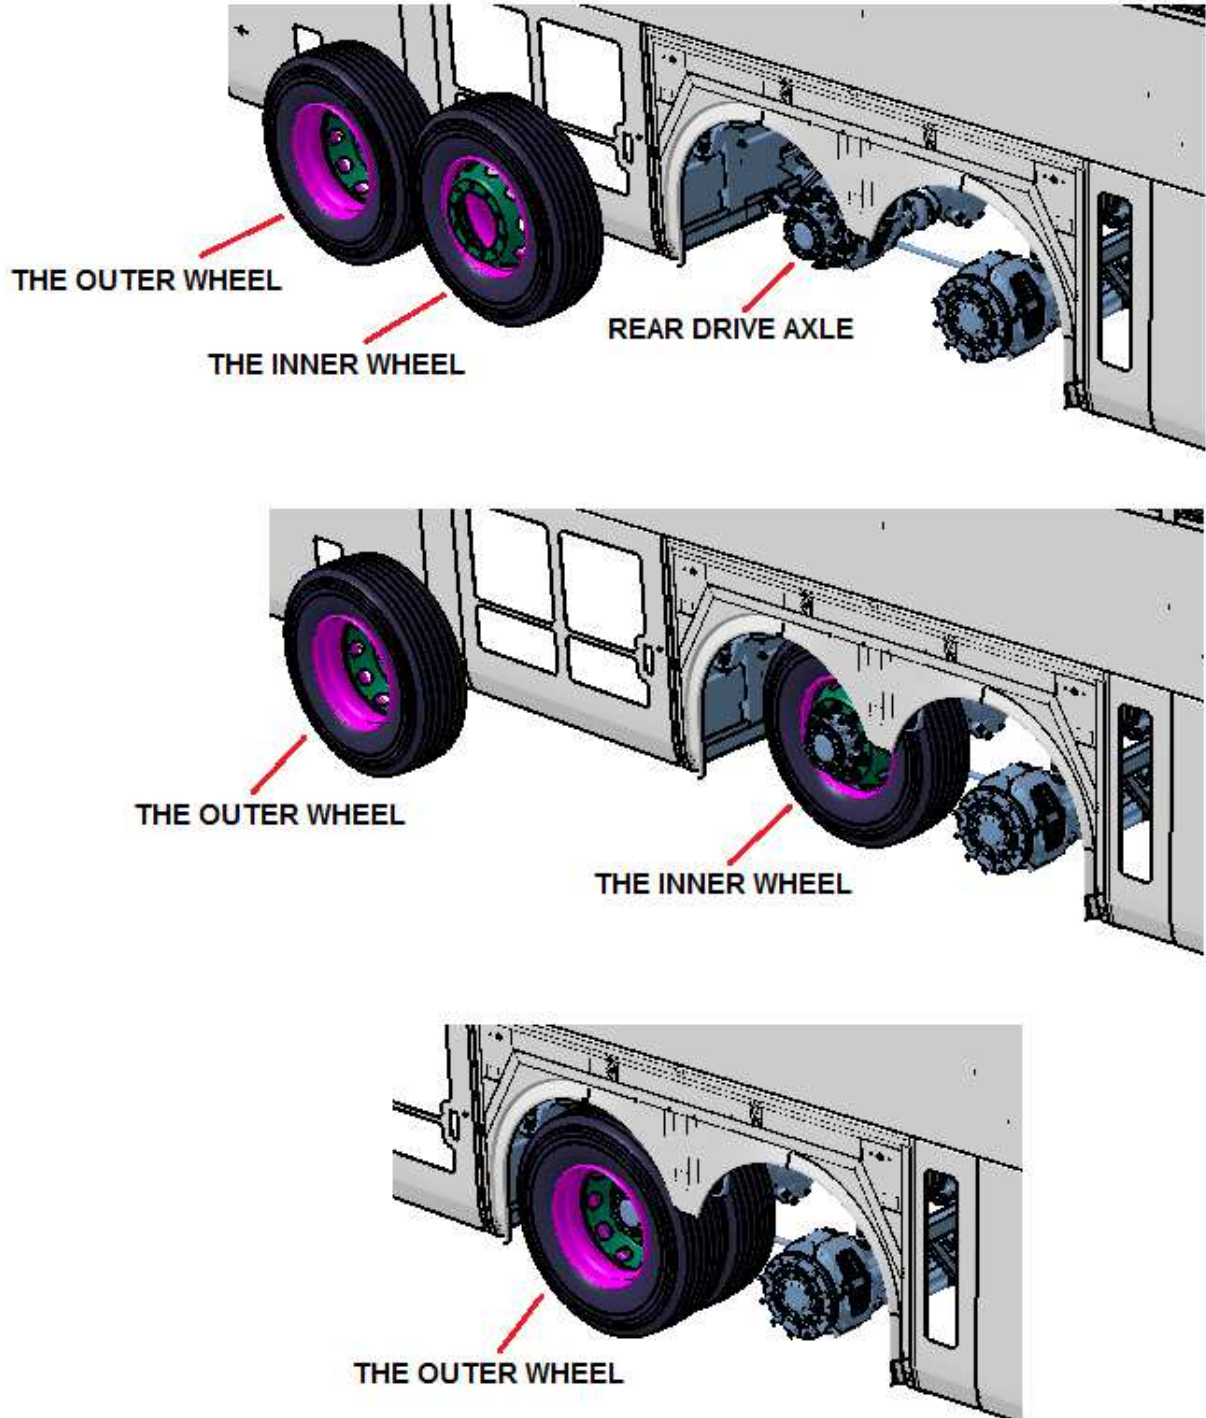

Figure-10
* Install dual wheels to the rear drive axle respectively shown in Figure-10.